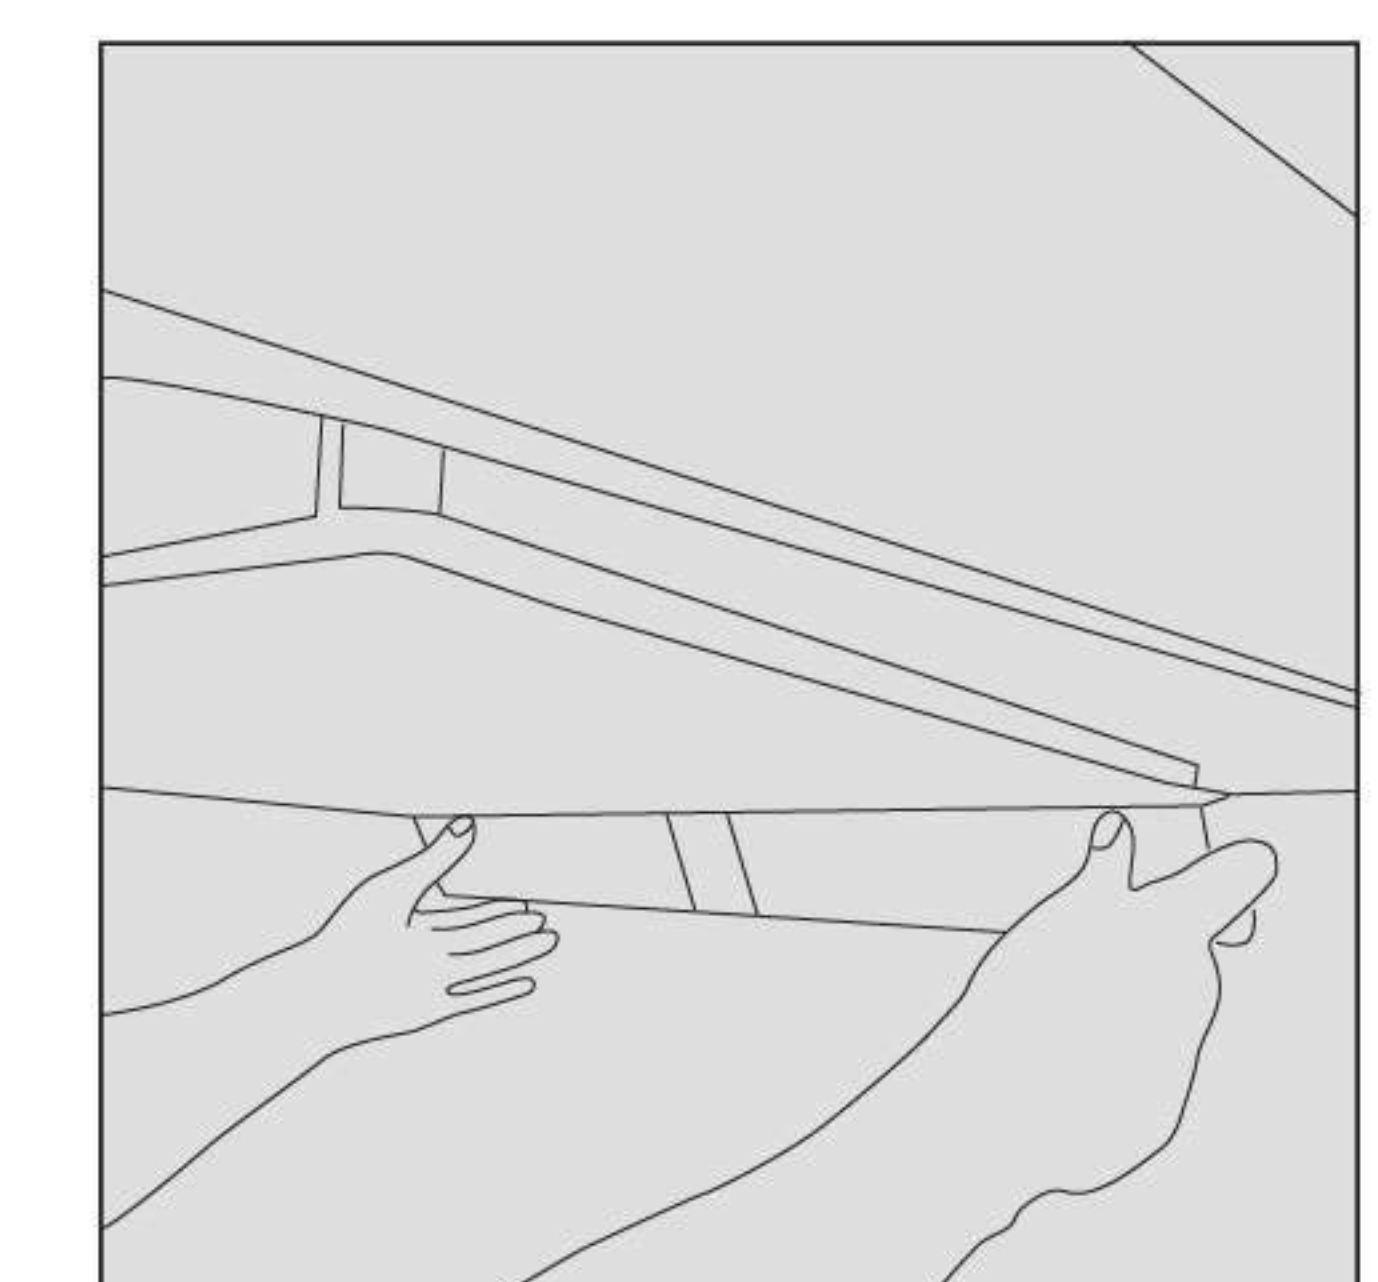

Figure 7
- Install the oil cup (see Fig 7).